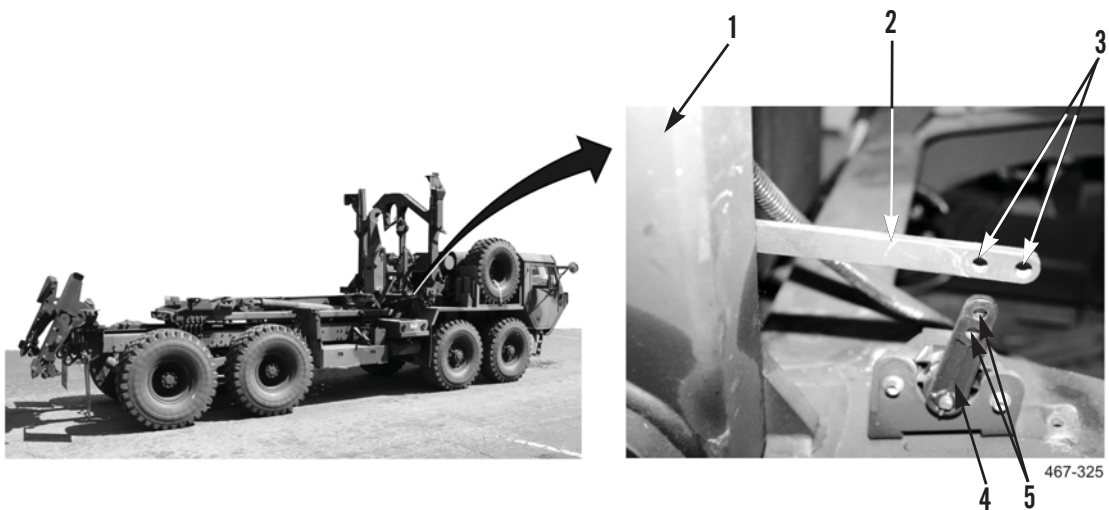

Figure 5. Sensor Arm Placement on Sensor Linkage.
8. Move stowage guide (Figure 5, Item 1) and watch values on multimeter. Values should range between 4 mA and 15 mA (approximately) as stowage guide is moved.
9. If values are out of range, adjust placement of sensor arm (Figure 5, Item 2) on sensor linkage (Figure 5, Item 4) by installing mounting hardware in different mounting locations (Figure 5, Item 3). Measure current at new location to ensure value is between 4 mA and 15 mA.